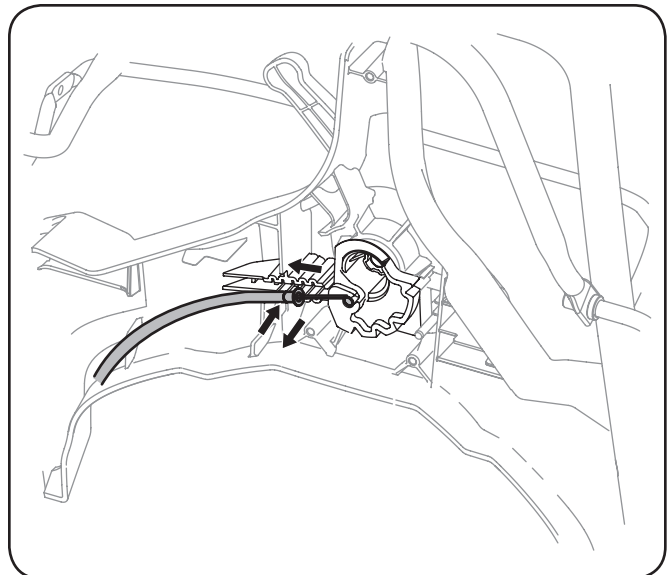

Figure 6-4
6. Using a pair of needle nose pliers or similar tool, move eyelet in cable only one slot to the left in housing as shown in Fig. 6-4.